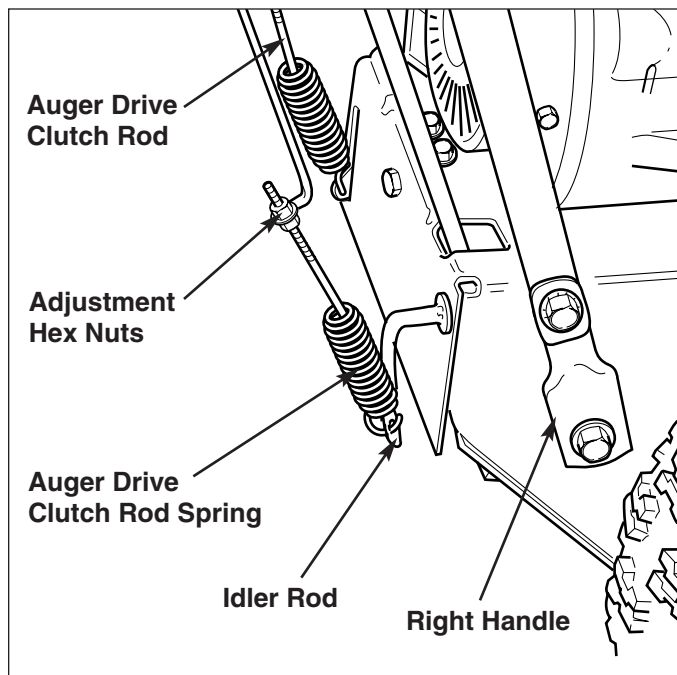

Figure 22. Auger Drive Clutch Rod Adjustment
1. Loosen adjustment hex nuts (Figure 22).